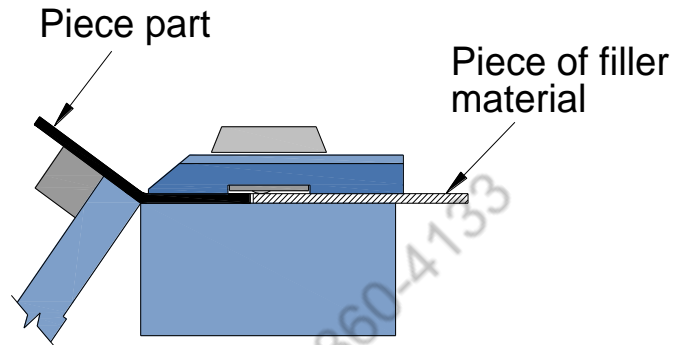

figure 10
- Press and HOLD IN the RED stop button (fig. 10) until the clamping bar releases. Release the red button.
- For thicker gauge materials set the toggle switch in (fig. 10) to the CLAMPING FOR BENDING position. When bending very thin materials set the toggle switch to CONTINUOUS LIGHT CLAMPING.